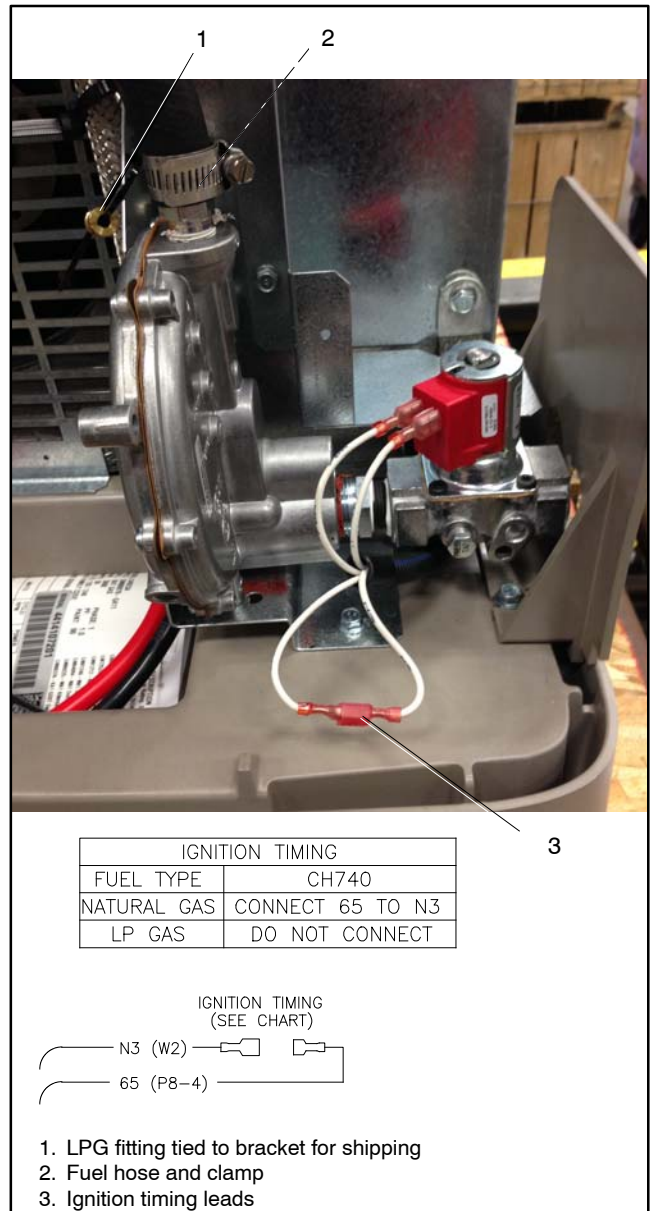

Figure 6-35 Fuel System, As Shipped (Model 14RESA/RESAL built after June 26, 2014)
Model 14RESA/RESAL generators built June 26, 2014, or later are not equipped with the fuel block. These units use fuel orifice fittings installed in the hose fitting at the fuel regulator. See Figure 6-35 and use the instructions in this section for fuel conversion.
The unit is typically shipped set up for natural gas, with the LPG fitting tied near the fuel solenoid valve. To convert to LPG, remove the NG fitting and install the LPG fitting as described below. See Figure 6-35 for the fuel system component locations.
5. Remove the hose clamp and fuel hose from the hose fitting. See Figure 6-35.
9. Disconnect ignition timing leads 65 and N3 for LPG. The ignition timing leads are located near the fuel solenoid valve. See Figure 6-35.